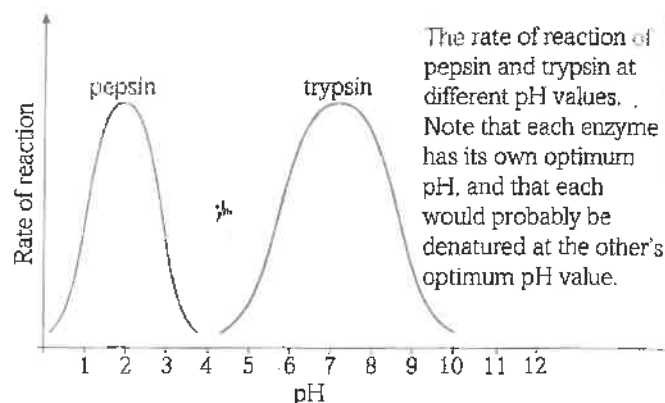

Figure 3 Pepsin and trypsin – rates of reaction at different pH values.
- As the partly digested food moves into the small intestine, salts in bile made in the liver neutralise it and raise the pH to around 7.8. This is optimal for the protein-digesting enzymes, trypsin and enterokinase, that catalyse further digestion of peptides to amino acids in the small intestine (Figure 3).